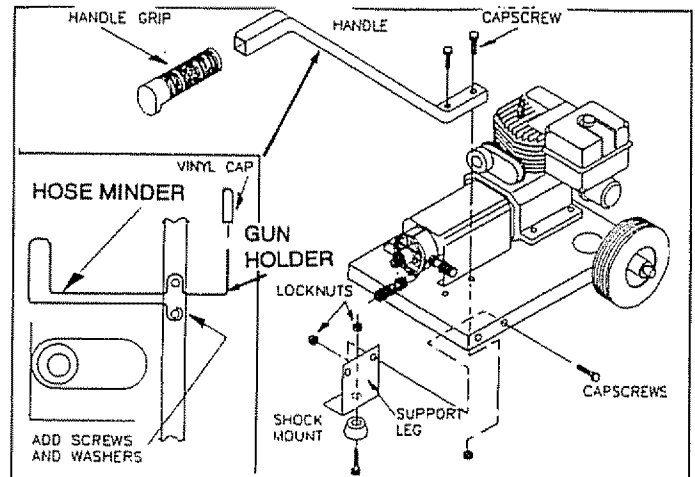

FIG. 2
- Slip this assembly through hole at the base of the pressure washer and attach the wheel spacer, wheel (protruding hub positioned inward) and push nut on the other end of the axle. Tap the second push nut with mallet until secure (Fig. 2).
- Attach the support legs to the base as shown in Fig. 2 with hex head capscrews and flange lock nuts. Tighten fasteners until legs are straight.
- To make it easier to place handle grip on guide handle, apply a soapy water solution to the handle first. After the handle grip is on, attach the guide handle to the base as shown in Fig. 2 with two M8-1.25 x 40mm hex head capscrews, two M8 washers and two flange nuts.